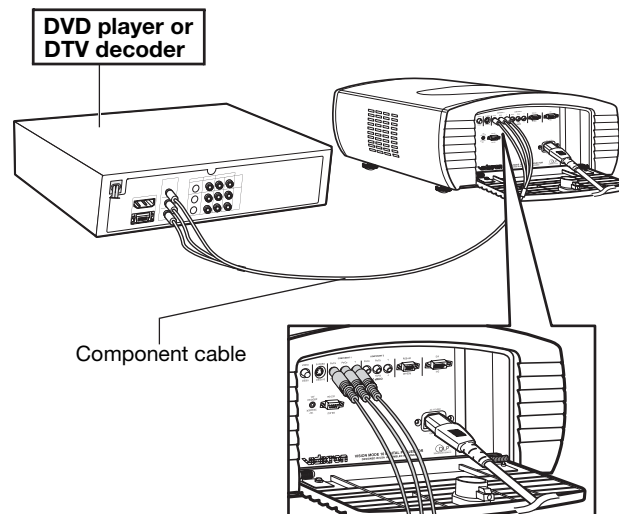

**Figure 3-10. Component Video Connections**
**Component Video Connections:** If you have a DVD player or DTV decoder with a component (YPbPr) output, connect it to the Vision 10/12 as shown in Figure 3-10.